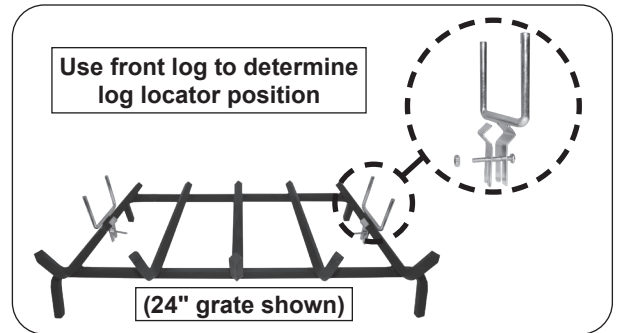
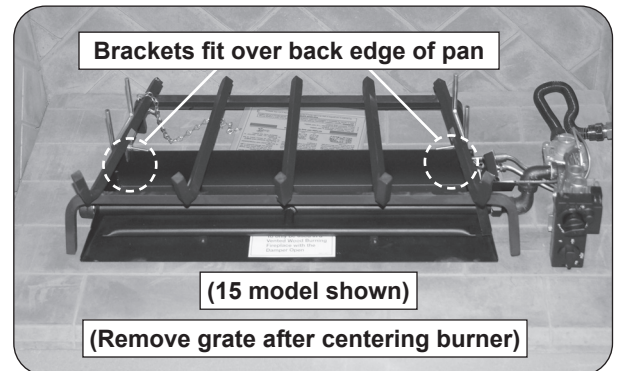
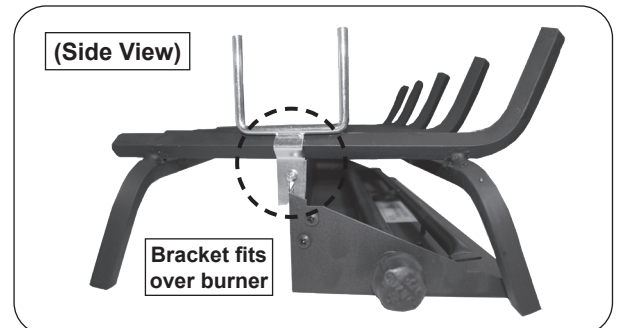

Fig. 19-1 Attach log locators to grate
Fig. 19-2 Position grate
Fig. 19-3 Grate placement detail
1. Locate the grate (outside of the fireplace) and attach the log locators to the 2 outer bars of the grate using the provided screws and nuts (see Fig. 19-1 and Fig. 19-3).
The log locators should be loosely positioned toward the middle of the outer bars and oriented as shown in Fig. 19-1. Temporarily place the front log at the front of the grate, to correctly determine the log locator position. Slide the log locators up against the rear of the front log. Tighten the log locators in place. Remove the front log.
2. Position the grate over the burner pan (in fireplace) so the log locator brackets fit over the back edge of the pan to lock it in position. Ensure the assembly is centered from left to right. See Fig. 19-2 and Fig. 19-3.